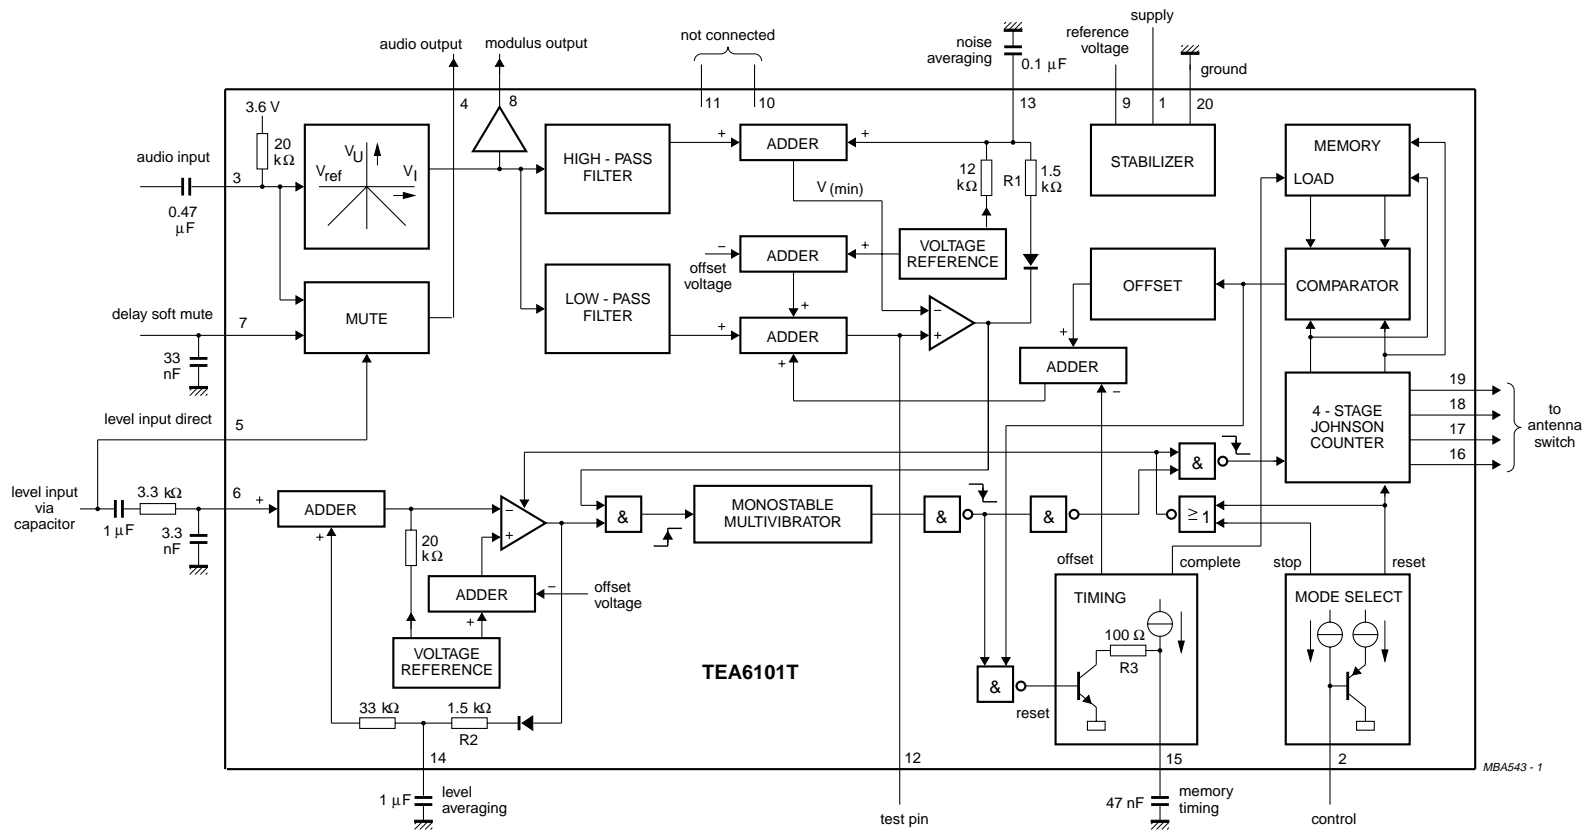

Fig.1 Block diagram.
A rectifier, high pass filter, low pass filter and a comparator are used to detect spikes and noise on the audio signal (see Fig.1). The negative spikes are detected by the rectifier whilst a high pass filter removes the audio signal to leave the high frequency signal components at the negative input to the comparator. The signal at the positive input to the comparator consists of an offset together with an audio signal attenuated by the low pass filter. If the amplitude of the spikes exceed that of the attenuated audio plus offset, the output of the comparator is HIGH.
Measurements using application circuit (Fig 1) at  $T_{amb} = 25\text{ °C}$  and  $V_P = 8.5\text{ V}$ . Voltages with respect to pin 18 (20); pin numbers in parenthesis refer to TEA6101T; all currents positive into the IC unless otherwise specified.